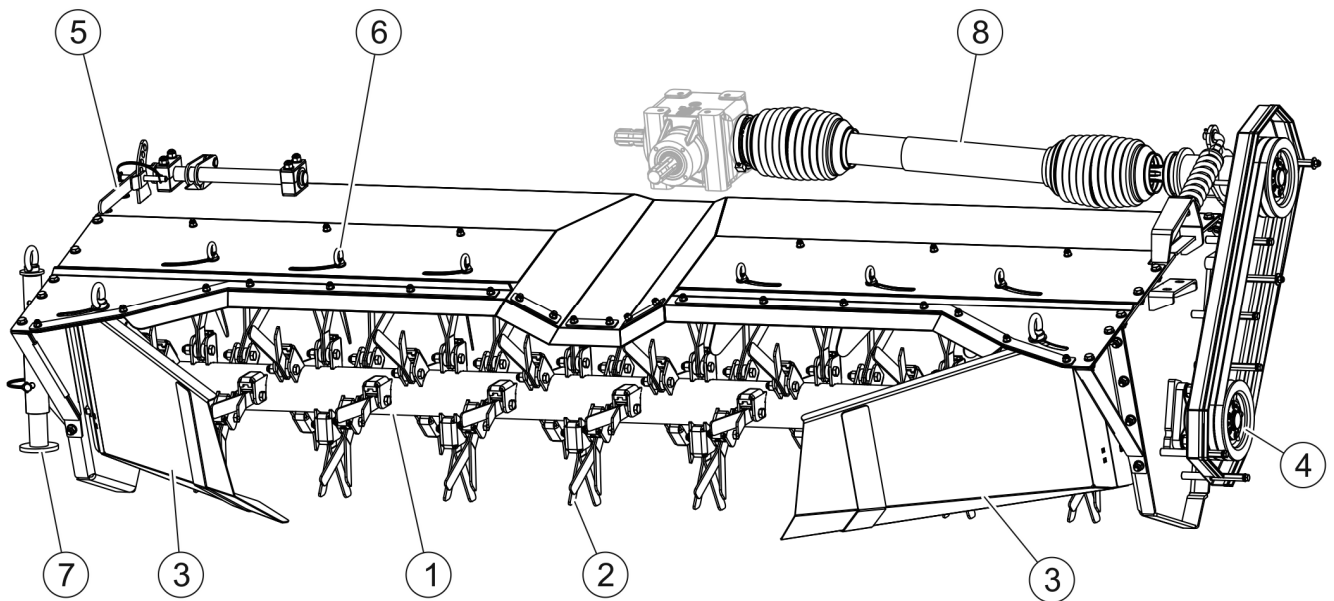

FIGURE 3.6 Conditioning assembly design
- Lift support leg (4) and insert the cotter pin (9) into the hole (A),
- Raise the supports (7) (FIGURE 3.6) of the conditioning assembly (PDF301C / PDF340C) and secure with the cotter pin.
- Set mower in working position. Adjustments can be made using top tension rod (3). The length of the tension rod should be such that the triangular hitching system be set vertically and the distance from the surface to the axis of the bottom fastening for the triangular hitching system pin be approx. 700 mm,,